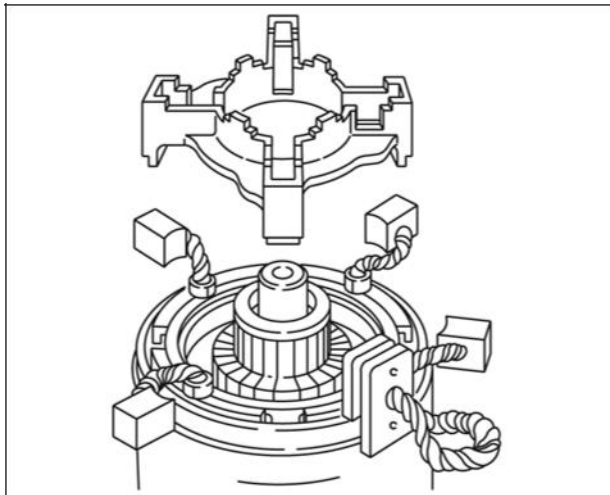

Figure 72
7. Assemble rubber seal to starter housing (Figure 72).